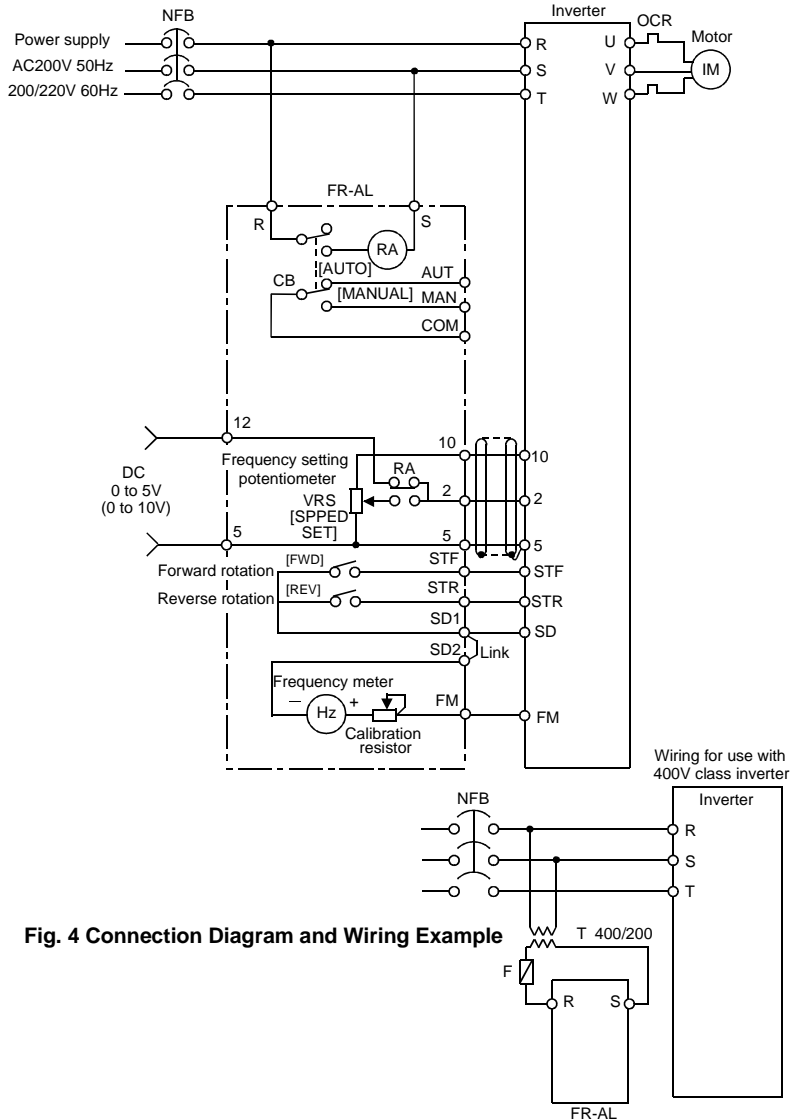

**Fig. 3 Embedding Dimensions**
- (1) Cut the mounting panel to the mounting hole dimensions in Fig. 3.
- (2) Take off the mounting screws (4 screws) in the controller front panel, and remove the mounting feet.